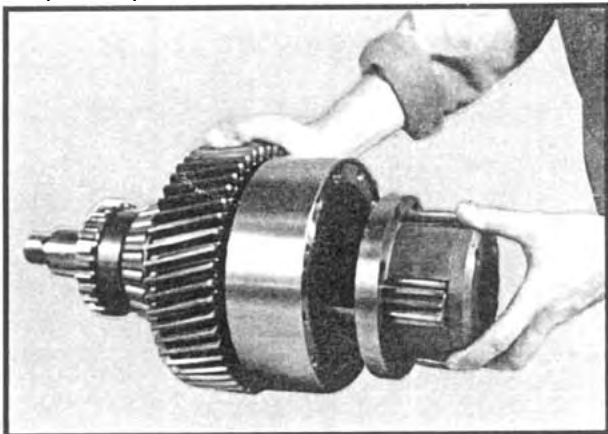

Fig 46
- Guide the sun gear (front output shaft) into the planet gear carrier. Place the (4) planet gears into position in the carrier. The chamfered face of the cover should face away from the carrier. Install the (4) allen-head shoulder screws and torque to specification.
- Make sure that the two dowel pins are in place inside the front differential case. Guide the planet carrier assembly into the front differential case assembly engaging the dowel pins. See Figure 46. Note that it is critical to the operation of the differential assembly that there be no nicks, burrs, or foreign matter between the two assemblies which would interfere with the proper seating of the carrier. Install the (6) 12-point cap screws to secure the planet carrier assembly in place. Tighten a crisscross pattern and torque to specification.